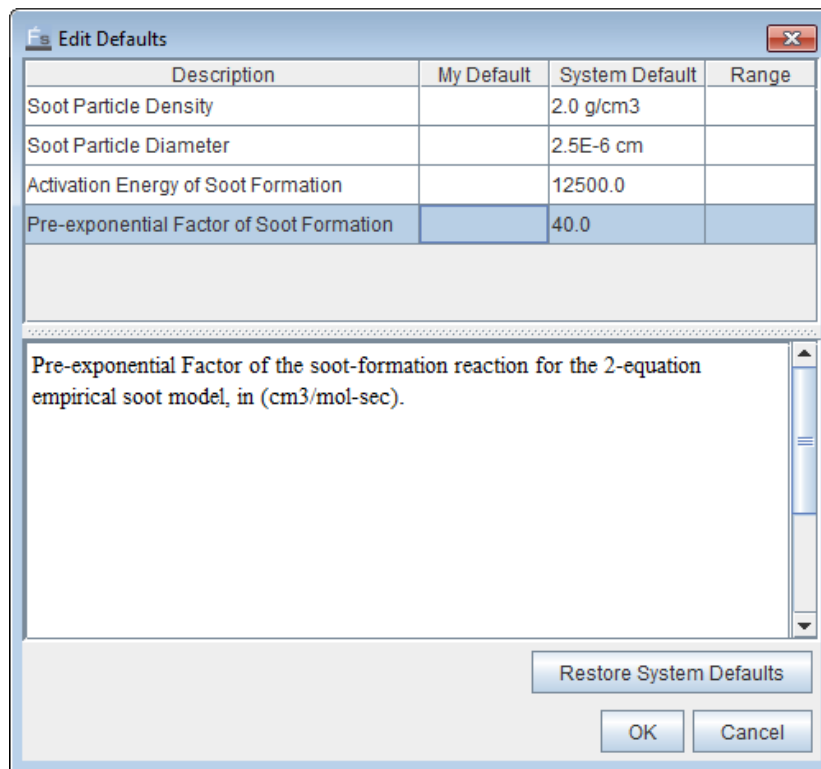

FIGURE 2.6: EDIT DEFAULTS DIALOG FOR MODELS > SOOT MODEL > SETTINGS
-  : **Edit Default parameter values for this panel.** Allows for that specific panel to enter user-specified defaults that override the defaults in the program. A tooltip is provided, too. There is a button to restore defaults on the device. See **Figure 2.6: Edit Defaults dialog for Models > Soot Model > Settings** .